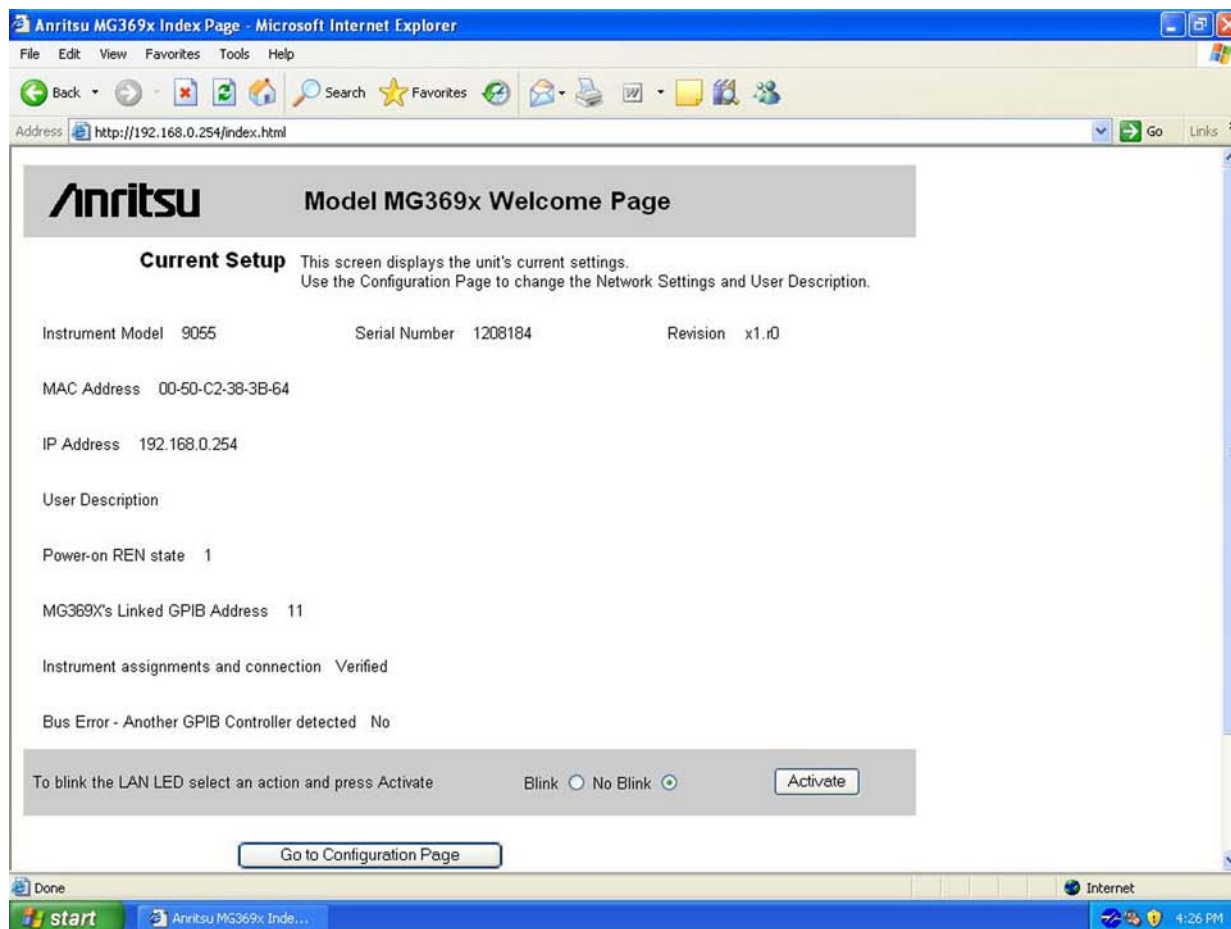

Figure 1-10. Ethernet Configuration Confirmation Page
6. Click the Update Flash button to complete the configuration. The TCP/IP Confirmation Page appears as shown in Figure 1-10 on page 1-19 (refer to "TCP/IP General Requirements and Settings" on page 1-13 for information on the below settings).